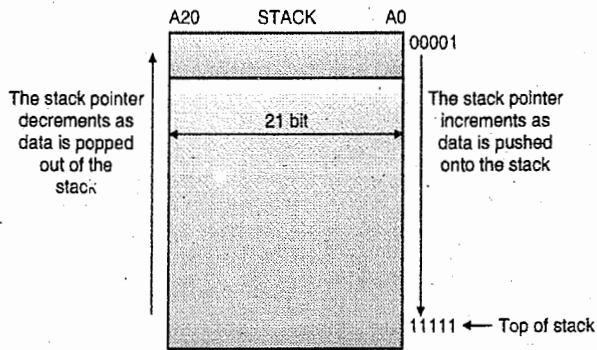

Fig. 4.12.1 : PIC stack
**Size :** The 5 bit stack pointer can access  $2^5 = 32$  locations making the stack a 32 level deep stack. Each stack location is 21 bits wide as shown in Fig. 4.12.1. The stack pointer can take values from 00H to 1FH.